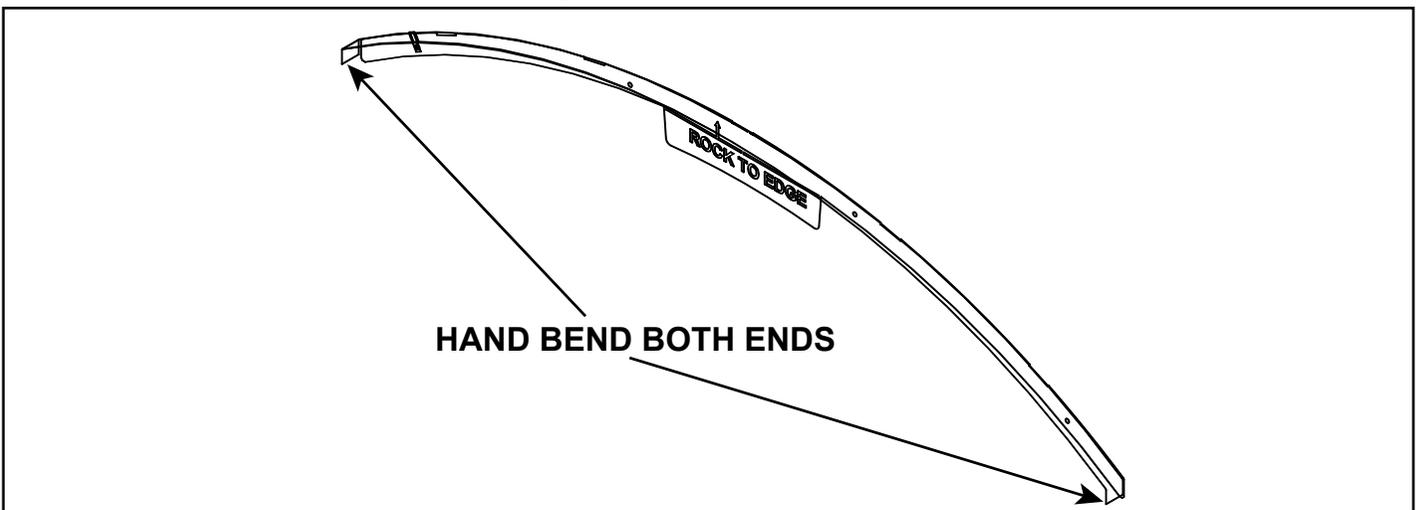

Figure 10.6 Top and Arch Finishing Pieces Flexed to Final Position
3. Flex the Arch Finishing Template piece over the top of the arch to match the outside profile of the top finishing template piece. Hand bend both ends. See Figure 10.6.